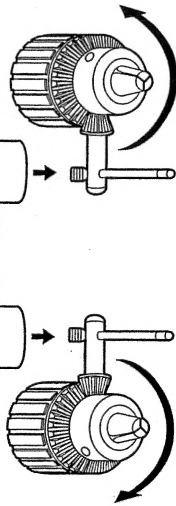

Figure 7
6. Place key in chuck as shown in Figure 7.
7. Using a wooden mallet or similar object, strike key sharply in a counterclockwise direction. This will loosen chuck so that it can be unscrewed by hand (Figure 7).